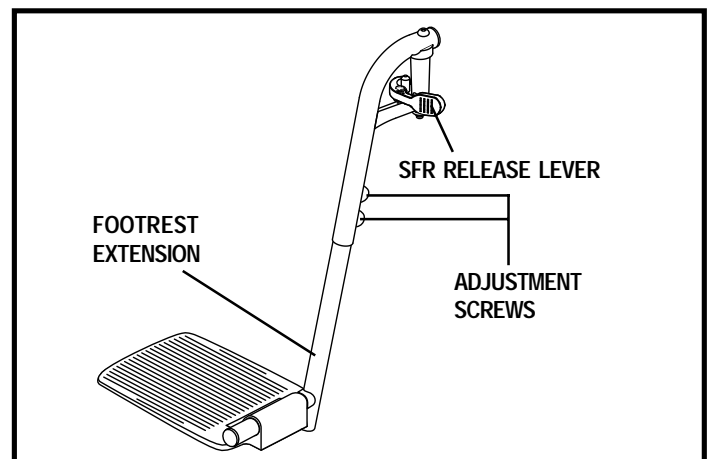

Figure 23. Swing-Away Footrests
1. Push in the release lever. See figure 23.
1. Remove the two adjustment screws from the side of each footrest extension. See figure 23.